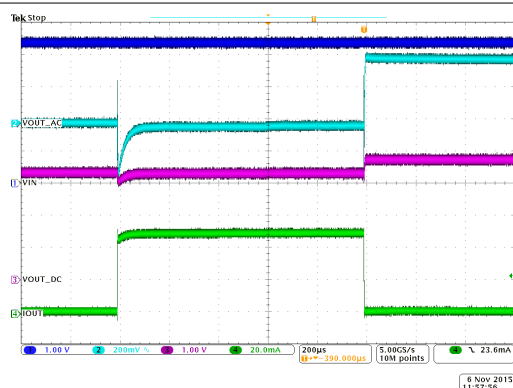

图 8-7. TPS71533-Q1 Load Transient Waveform for Legacy Chip
**Figure 8-7** illustrates the load transient waveform of the TPS71533-Q1, output current is switched between 0 mA and 50 mA (CH4). Input voltage is set at 4.3 V (CH1). Output voltage DC (CH3) and output voltage AC (CH2) are also illustrated in the waveform.